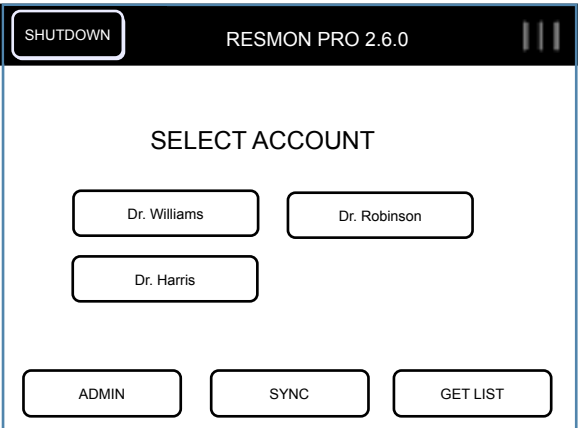

Figure 66 - Home Screen with network cable plugged in
3. On the Home Screen, you will see two new buttons: *SYNC* and *GET LIST* (Figure 66). Notice that if no tests need to be synchronized (for example because they have already been synchronized during a recent connection to the network) the *SYNC* button will not be present.